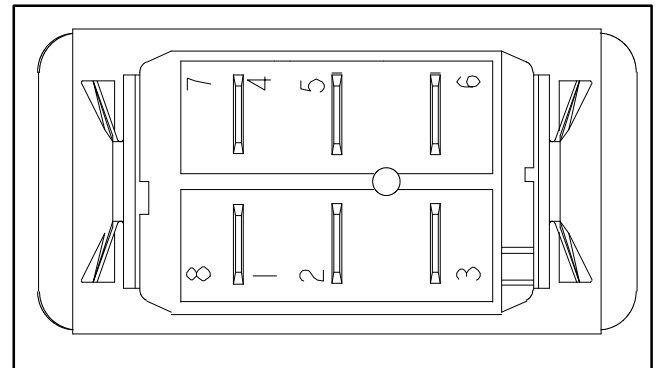

Figure 33
4. With the use of a multimeter (ohms setting), test the switch functions to determine if continuity exists between the various terminals for each switch position. Check the continuity between the switch terminals. The windshield wiper/washer switch terminals are identified in Figure 33 and the circuitry of the switch is shown in below table: